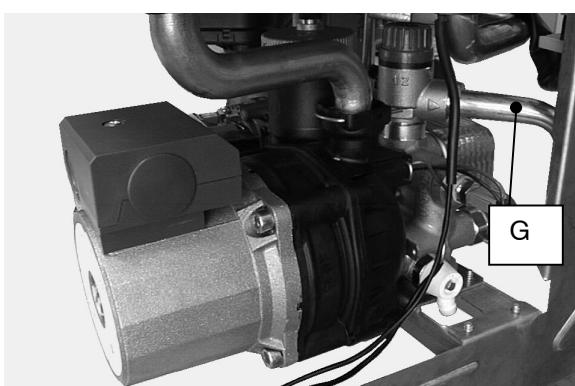

Fig. 5.4
8. Connect the pipe G (Fig. 5.4) from the pressure relief valve to the safety discharge pipework.